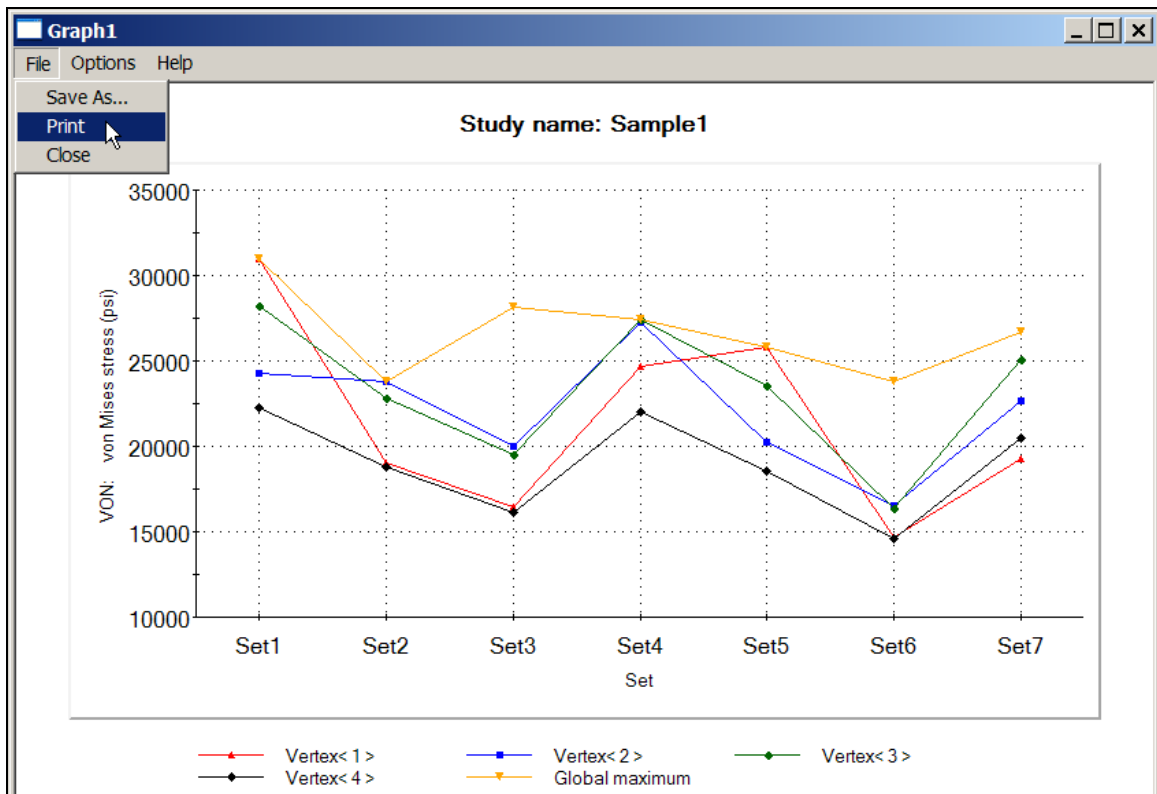
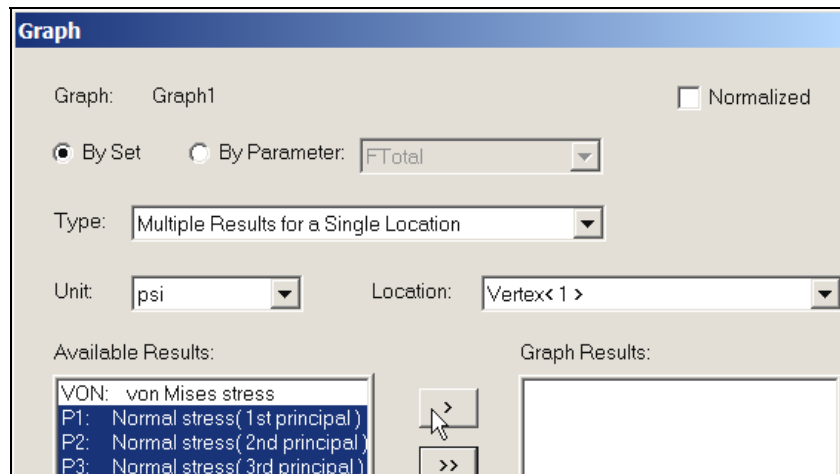
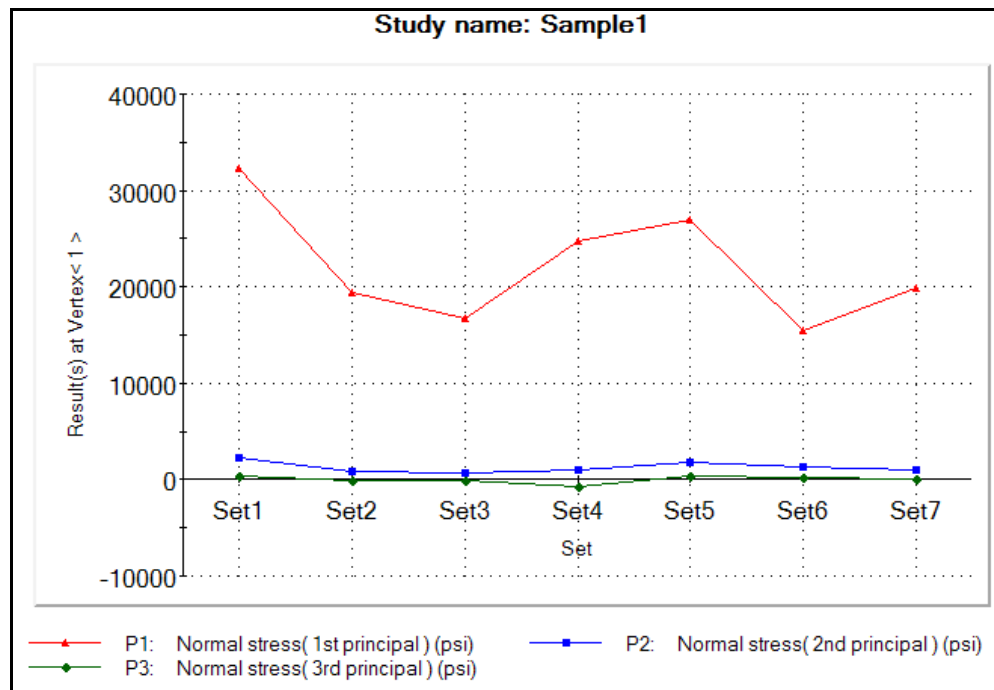

Figure 16-6 Von Mises failure criterion for each set location
Figure 16-7 Picking the principle stresses from available results
Figure 16-8 Principle normal stress results
6. Click **OK**. At this point the Von Mises graph appears as given in Figure 16-6.
A graph can be enlarged or reshaped by grabbing a corner and moving it around. There are options to print the graph or save it as a file, etc. It is wise to check the principle stresses as well (and required for brittle materials). Therefore the **Graph** panel is edited to select principle stresses P1, P2, P3, move them to the right under graph results (see Figure 16-7) and get the additional plot shown in Figure 16-8.
The format for the graphs in Figure 16-6 and Figure 16-8 gives a feel for how the maximum and minimum stresses vary, but not how sensitive they were to the parametric geometry, or loads. Of course, for any linear problem the displacements and stresses are directly proportional to the loads. Therefore, you can usually get more insight about what is most important in a design by seeing how changes in the geometric parameters, or support parameters affect the results. That is usually referred to as a sensitivity study.